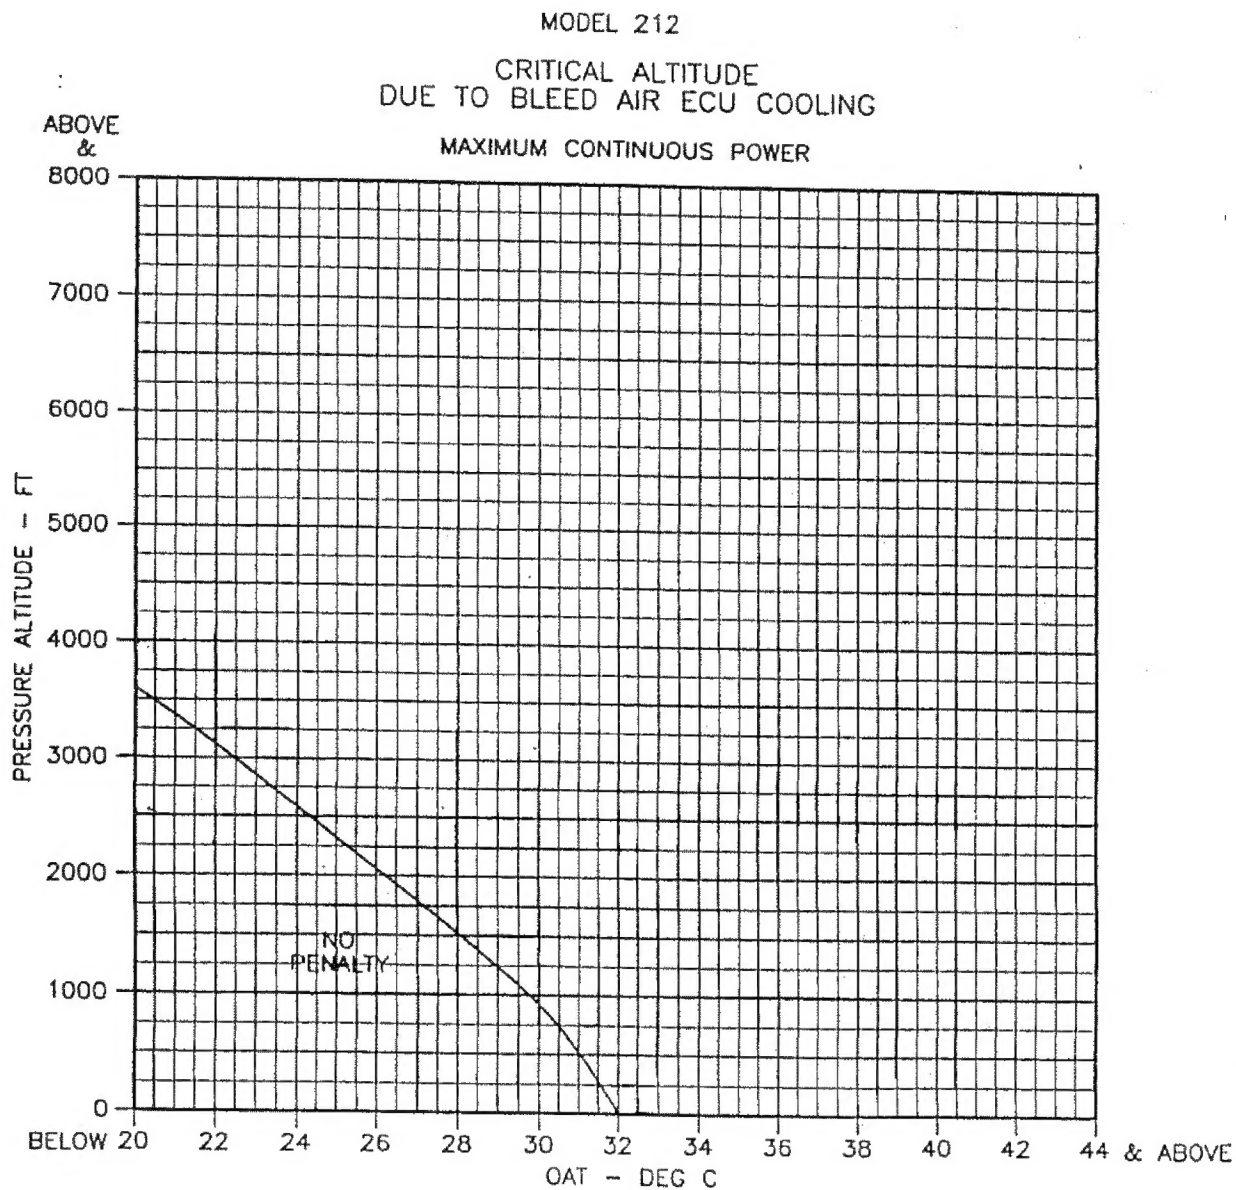
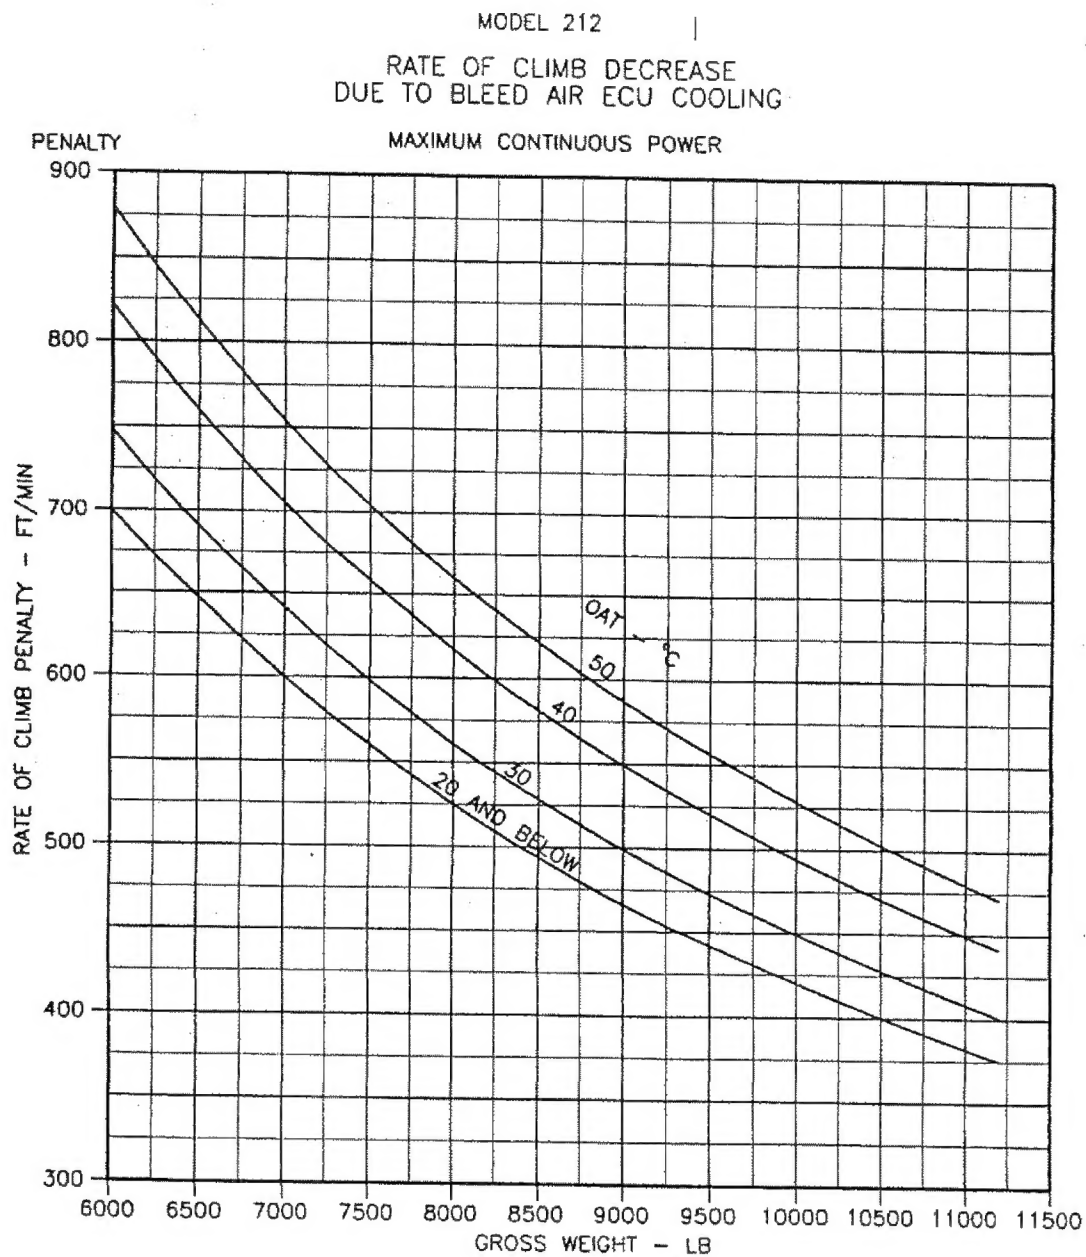

Figure 3
Figure 4
- 2. No climb performance decrement is required when operating within the "NO PENALTY" altitude/temperature envelope (Ref Figures 3 and 5). The MCP climb decrement, (Ref Figures 4 and 6) must be applied when operating outside the "NO PENALTY" altitude temperature envelope. Use of the bleed air system when operating above Maximum Continuous Power (MCP) is Prohibited.